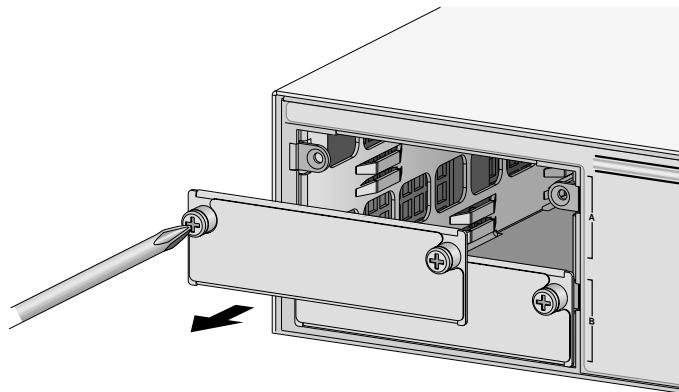

Figure 15 Removing the Blank Panel
2. Remove a blank faceplate from one of the expansion slots by unscrewing the faceplates two captive screws. Refer to Figure 15. Do not remove the blank faceplate if you are not installing an expansion module in the slot.